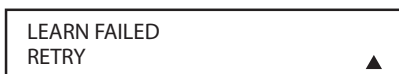

Figure 137.
8. If the message shown in **Figure 137** appears in the display, press the **Set Button** to try programming the button again. When the remote prompts you to press and hold the key on the original remote control again by showing **PRESS KEY ON THE ORIGINAL REMOTE** in the display, immediately press the button on the source remote again. To avoid another failed attempt, make certain that the windows on the two remotes are facing one another.
9. Continue to hold the button on the original remote until the LCD changes again. If the code was successfully learned, you will see **CODE LEARNED** in the display. In that case, press the **Set Button** to store the code. If the **LEARN FAILED** display (**Figure 137**) appears again, you may either try to program the key again or press the **Rem Menu Button** to exit **LEARN**. It is possible that some remotes may use code sequences or infrared frequencies that are not compatible with the KP21R remote, and those codes cannot be learned. When the display shown in **Figure 138** appears, press the **Set Button** to exit the Learning system.